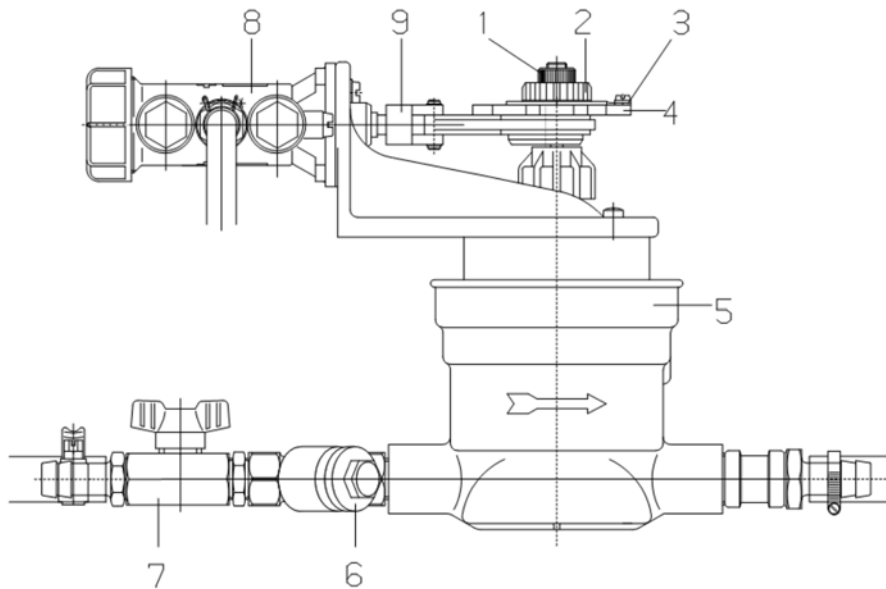

Fig. 6: Setting of the concentration
2. ➤ Loosen the knurled knob (↪ Chapter 6 'Setting and start-up' on page 28, Fig. 6, pos. 1) from the excenter approx. 5 mm.
3. ➤ Pull out the scale plate (Fig. 6, pos. 2) from the excenter wheel notches and hold scale plate.
4. ➤ Set the excenter wheel (Fig. 6, pos. 4) to the desired concentration value on the scale plate.
5. ➤ Loosen the arrestor screw (Fig. 6, pos. 3) and adjust the arrow of the red marker to the preset scale value.